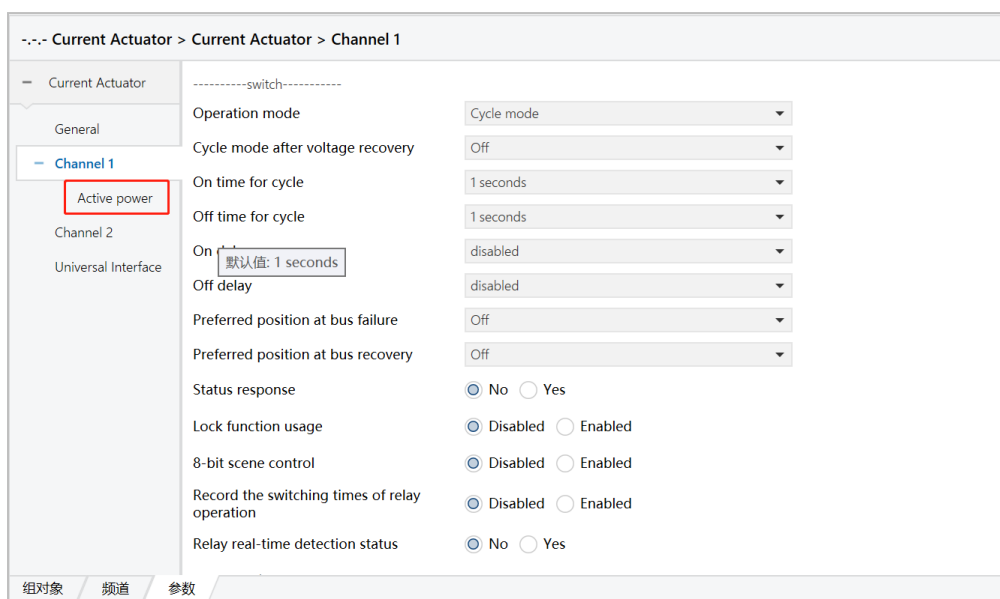

Figure 6.2.5
(1) The parameter "Power Detection" indicates the effective power detection, when selecting "Enabled", the interface will appear as shown in Fig. 6.2.5, and the options in the red box will appear as shown in Fig. 6.2.5.